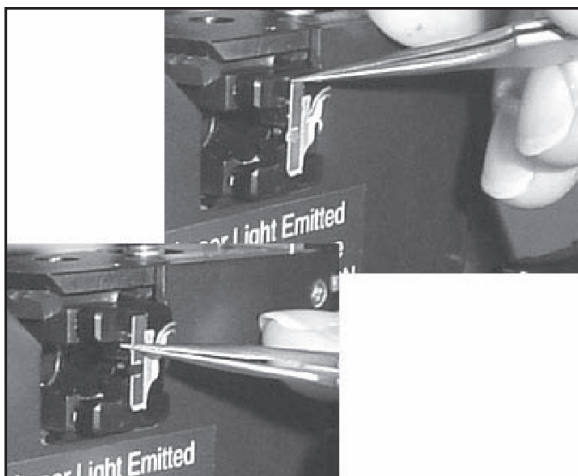

Figure 3.36: Push the probe substrate flush against the “L” mount
- Use tweezers to push the substrate flush against the “L” as shown in Figure 3.36.